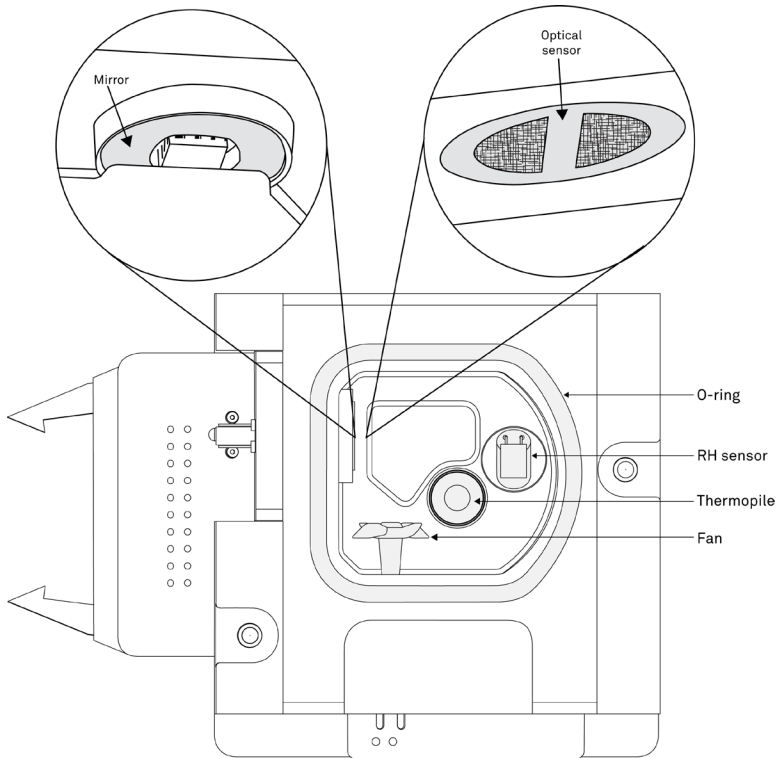

Figure 86 View of inside of removed sensor block
7. Turn the sensor block over so the sensor chamber area is visible, and clean the sensors and sensor block (Figure 86).